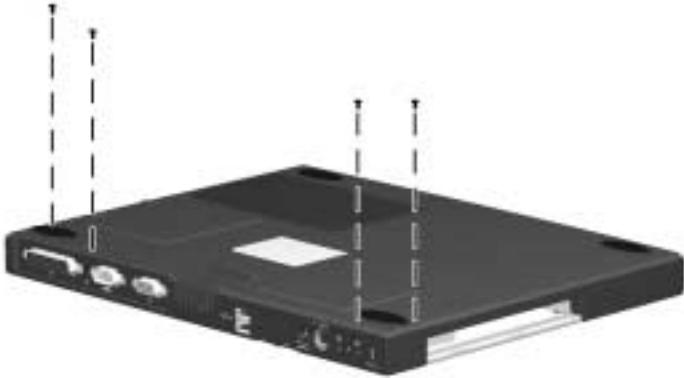

Figure 5-22: Removing the Exterior System Board Screws
3. Remove the four M2.5 × 7 screws from the bottom of the base enclosure securing the system board to the base enclosure (Figure 5-22).